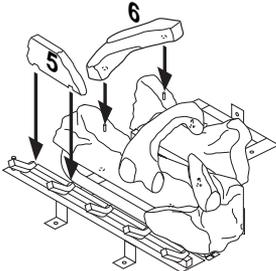

Figure 45 - Installing Logs No. 5 and No. 6
5. Place log #5 (base log) onto front left part of grate making sure notches fit over prongs of grate. See Figure 45, page 26.
6. Place log #6 (left log) onto two pins on left side of back and front log. See Figure 45.